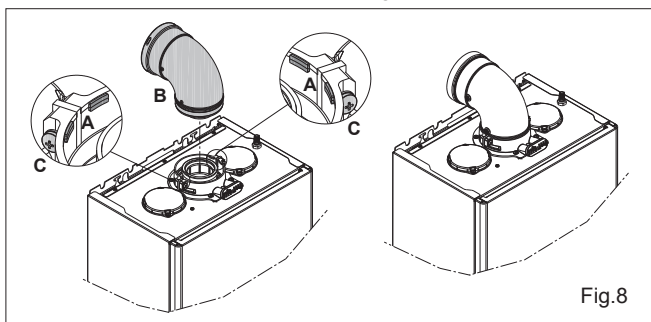
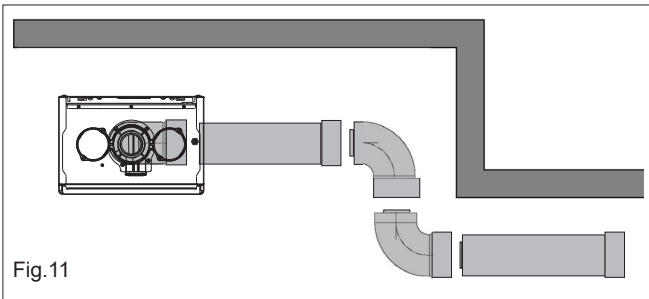

Fig.8
Fig. 11
**NOTE (Fig.8):** The appliance incorporates a 'click-fit' flue connection. Ensure that both screws 'C' on the 'click-fit' have been slackened off. Ensure that the connector is correctly aligned with the 'click-fit' and insert it into the 'click-fit' until it clicks into position (this is when the tabs at points 'A' are located in the groove of the flue bend connector). Both screws (C) should now be tightened.
Connect the bend – supplied with the terminal kit – to the top of the boiler (see Fig.8). The additional bends & extensions have push-fit connections, care should be taken to ensure that the correct seal is made when assembling the flue system. Connect the required number of flue extensions or bends (up to the maximum equivalent flue length) to the flue terminal (Fig. 11). The flue system should have a 3° rise from the boiler to outside, to ensure any condense fluid that forms, is allowed to drain back to the appliance.
When cutting an extension to the required length, you must ensure that the excess is cut from the plain end of the extension (Fig. 11). Remove any burrs, and check that all seals are located properly. You must ensure that the entire flue system is properly supported and connected. Seal the flue assembly to the wall using cement or a suitable alternative that will provide satisfactory weatherproofing. The interior and exterior trim can now be fitted.